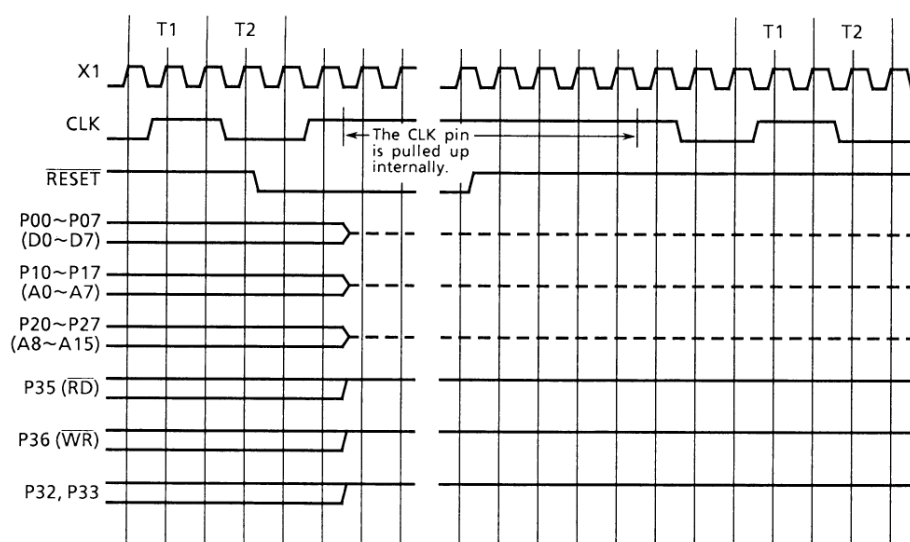

Figure 3.1. Reset Timing
The basic timing of the reset operation is indicated in Figure 3.1. In order to reset the TMP90C802A, the RESET input must be maintained at the "0" level for at least ten system clock cycles (10 stated: 2μsec at 10MHz) within an operating voltage band and with a stable oscillation. When a reset request is accepted, all I/O ports (Port 0/data bus D0 ~ D7, Port 1/ address bus A0 to A7, Port 2/address bus A8 to A15) function as input ports (high impedance state). Output ports (P32, P33, P35 (RD) and P36 (WR) and CLK turn to "1". Input ports remain unchanged.